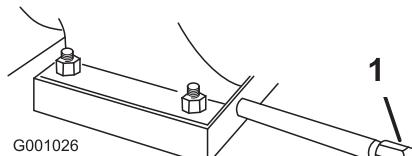

Figure 42
- Clean the area around the oil-drain cap (Figure 42).